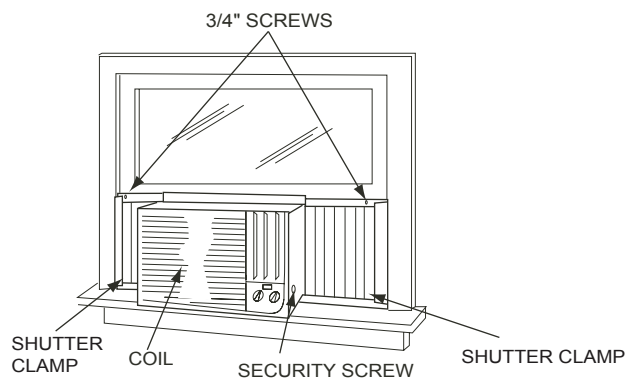

FIGURE 15 — SIDE SHUTTER INSTALLATION
18. Drill the holes marked in Step 16 with ¹/₈-in. drill bit. With the wing panels expanded, secure the wing panels with two ³/₄-in. screws and shutter clamp provided (each side). See Fig. 15.